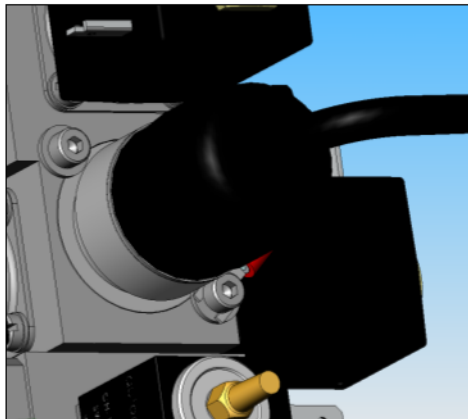

Figure 5: Ground Lug Position
- e. Installing the ground lug between the washer and the screw (Figure 5: Ground Lug Position) and secure the existing hardware using an M4 Allen wrench.
- f. Reconnecting the octal connector to the TC Gauge (Figure 5: Ground Lug Position).